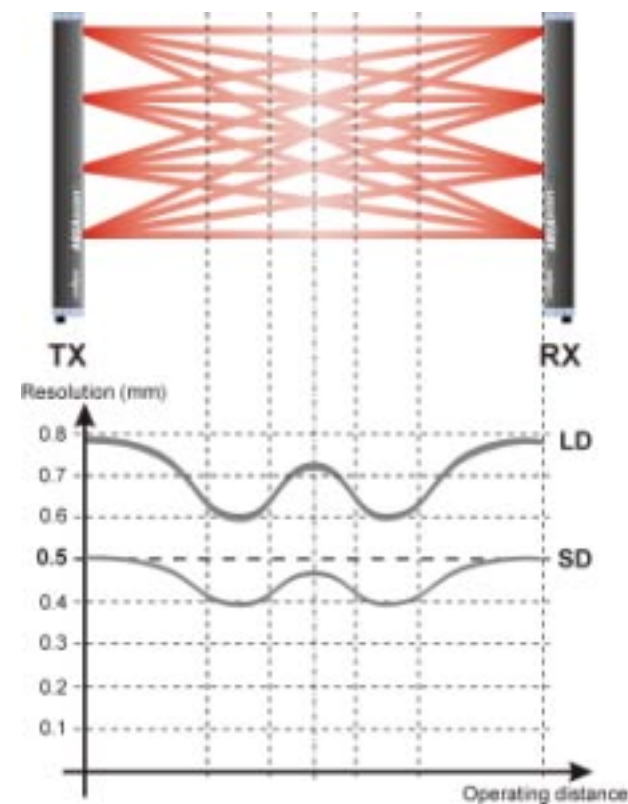

Fig. 9
- **Scanning with CROSSED beams:** where several photoreceivers are illuminated by the beam of a single photoemitter (this mode activates a series of photoreceivers and one photoemitter contemporarily, during the scanning cycle). The scanning with crossed beams can be used for the detection of objects with small dimensions and, in particular, for the detection of transparent objects. The minimum object that can be detected is ≥ 0.5 mm (that represents the minimum resolution of the device in this mode). The real resolution of the device also depends on the object's position in the detection field, as shown below (Fig.9).